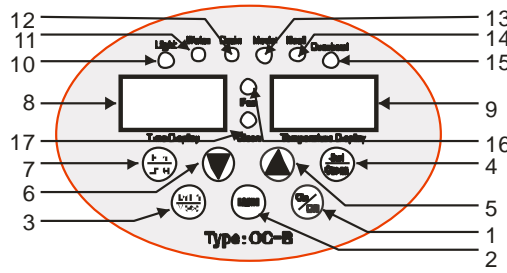

Figure 5A
1. OC-B controller (Figure 5A)